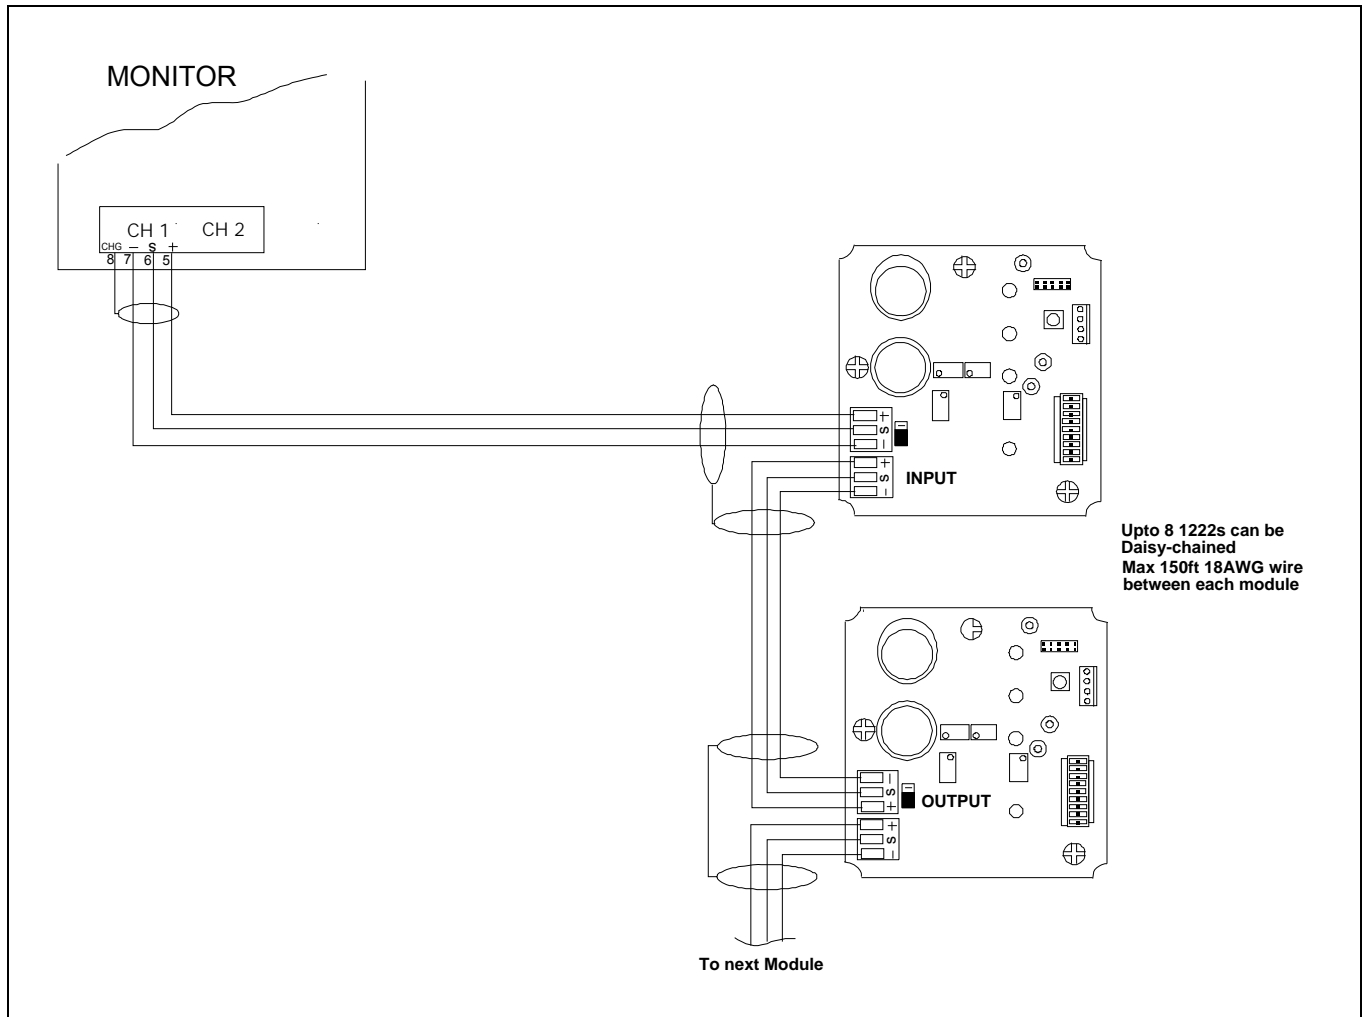

Figure 8-1 1222 Sensor Module Wiring
- Cable shielding must be grounded at the monitor end only. For Sensor modules ensure grounding continuity by tying grounding shields together see Figure 8-1. The cable shield at the end of a cable where the grounding is not propagated or tied to a landing point must be clipped short and wrapped with electrical tape to avoid electrical contact with any components in the housing.
- If you have connected 122X Sensor Modules to the monitor and are experiencing a fault you will need to check the inputs and output wiring and either the end of line termination jumpers or dipswitch settings. See Figure 8-1 to Figure 8-4.